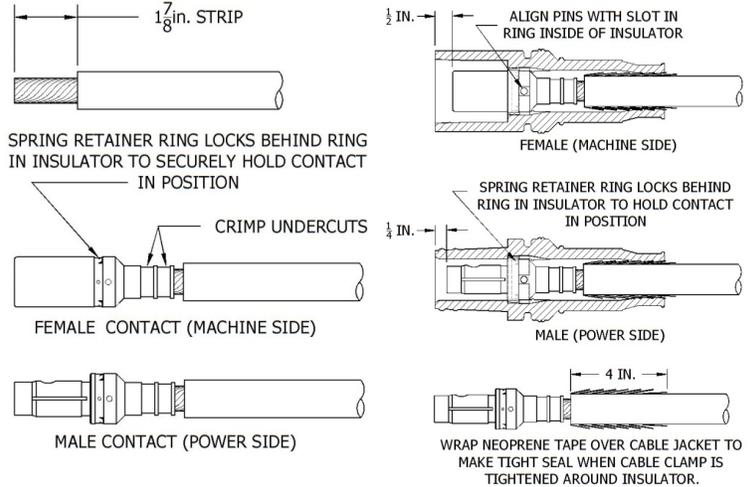

Figure 2
- Position contact as shown in Figure 2 by aligning the contact drive pins with the slots on the rear of insulator. Push contact into insulator from cable end of insulator. A lubricant such as CRC 02094 spray may be used to aid in assembly. Push until pins on contact hit the internal ring inside of insulator, rotate insulator while pushing against cable until pins align with U shaped openings in internal ring. Push until retainer ring locks into internal ring inside of insulator. Pull back on cable to determine that contact is locked into insulator. When properly seated, male contact will be recessed 1/4" from front of insulator; female contact will be recessed 1/2".